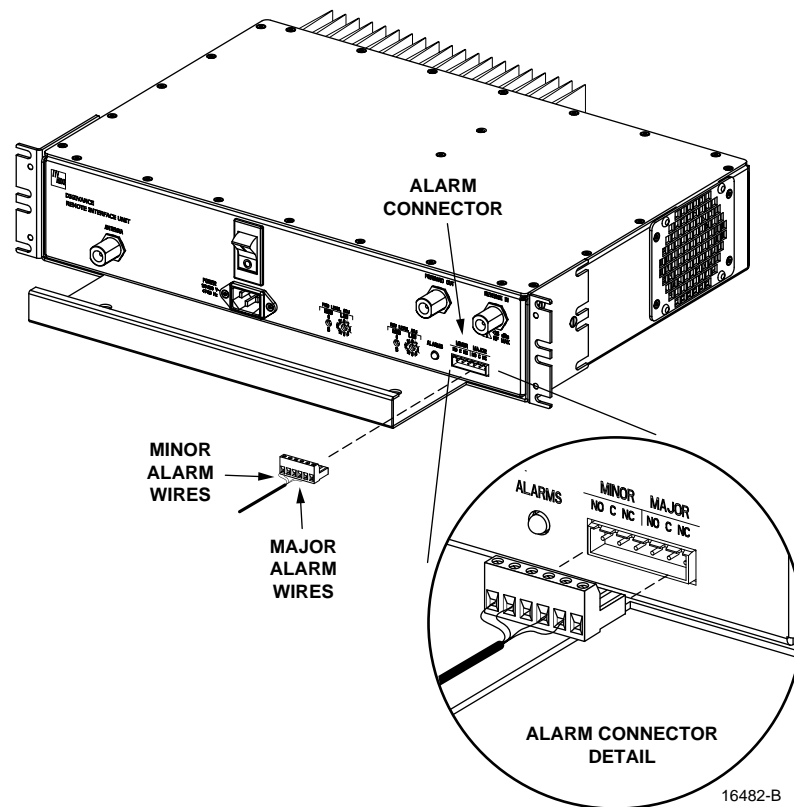

Figure 11. External Alarm System Connections
4. Connect the Major alarm wire pair to the **MAJOR COM/NC** or **MAJOR COM/NO** terminals (whichever is required by the external alarm system) on the RIU alarm terminal connector (supplied with RIU) as shown in Figure 11.
5. Connect the Minor alarm wire pair to the **MINOR COM/NC** or **MINOR COM/NO** terminals (whichever is required by the external alarm system) on the RIU alarm terminal connector as shown in Figure 11.